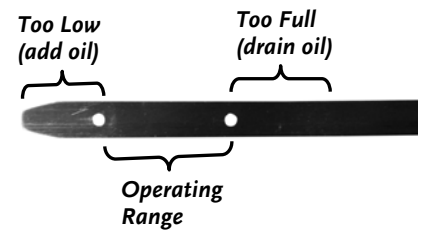

Figure 22a: 16.5 Model
- If the oil level is low continue adding a few ounces of oil at a time, rechecking the Dipstick until the oil reaches the fill mark (**Figure 22a and 22b**). Be careful not to overfill.